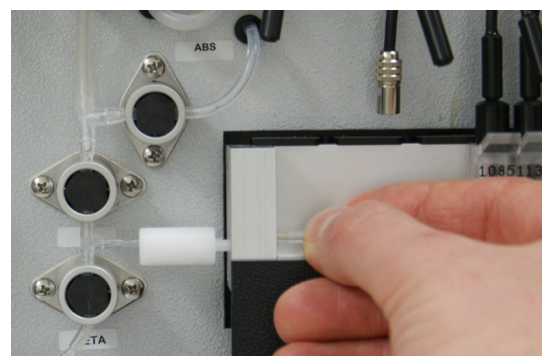

figure 4
- Take a new LB-capillary, place it on the tip of the exchange tool and push it left into the light-barrier as shown in figure 4.